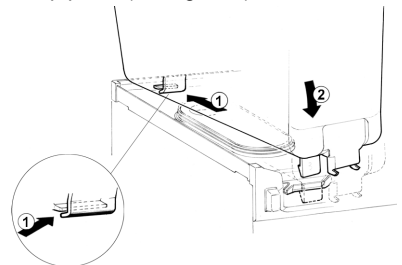

figure 5
- 4 Place bowl on the unit. Wet the gasket for ease of insertion. Please take care that the hook on the backside of the bowl be inserted properly in its seat on the upper drip plate. (see figure 5).